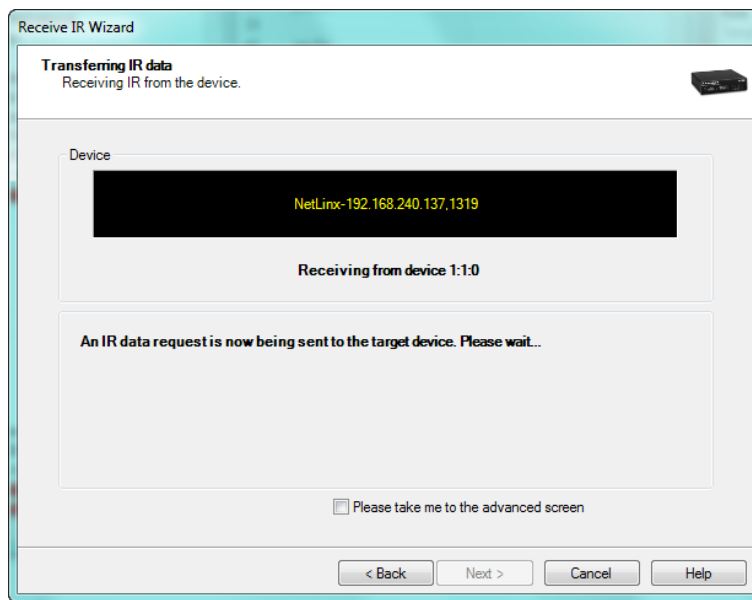

FIG. 58 Receive IR Wizard - Transferring IR Data dialog
5. Click **Next** to request the IR data from the targeted device (FIG. 58):